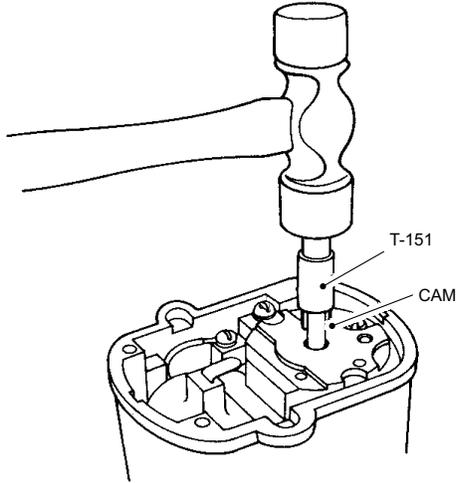

Figure 7.10
- B. Drive the cam until it bottoms in the rotor cam slot. (See Figure 7.10.)